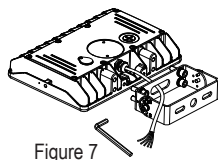

Figure 7
**Step 2:** Pull the wire through the middle hole of the Trunnion Bracket. (Figure 7)